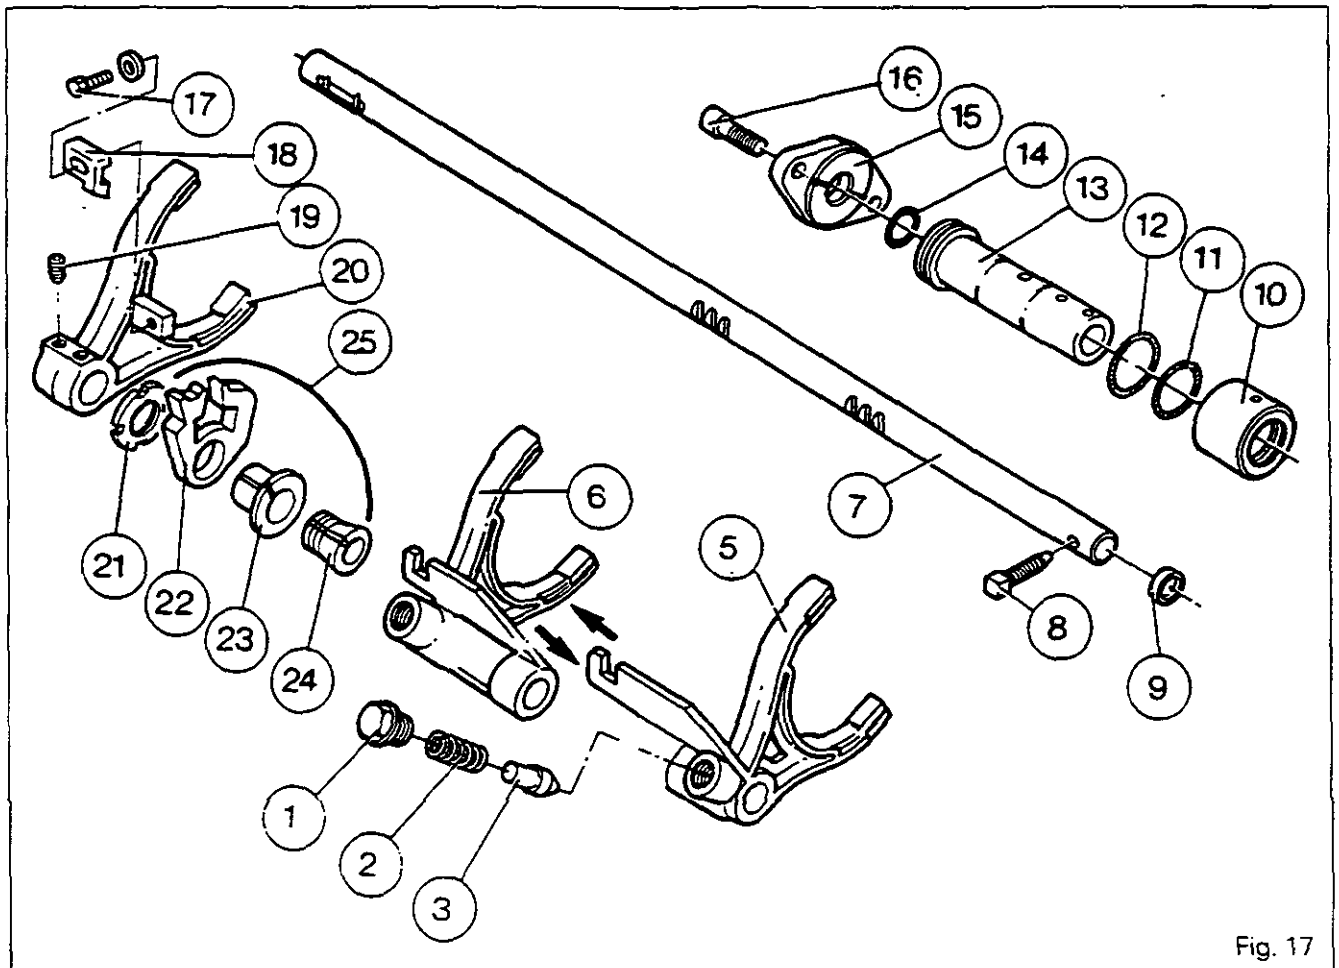

Fig. 17
F. Reassembling the guide rail and forks (Fig. 17)
64. Check that the ports in the Hare/Tortoise cylinder (10) are not blocked.
65. Fit the cylinder (10) equipped with O-ring (11) in the housing.
66. Install the Hare/Tortoise fork (20) in the synchro-mesh.
67. Fit seals (12) and (14) onto the piston (13) and then insert it into the bore in the cylinder.